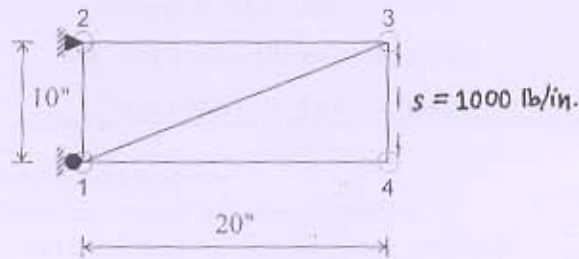

Figure 4
(20"×10") as shown in Figure 4 with a distributed shear load acting all along the right
- Q - 6 Determine the element stresses, including principal stresses, for the plate shown in Figure 4. Remaining data is to be considered exactly the same from the concerned question. [14]